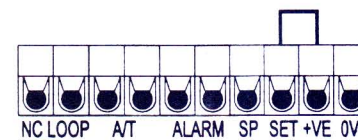

Fig.15
2. Linking the +12V input to the "set" input will disable all LED functions as in Fig.15